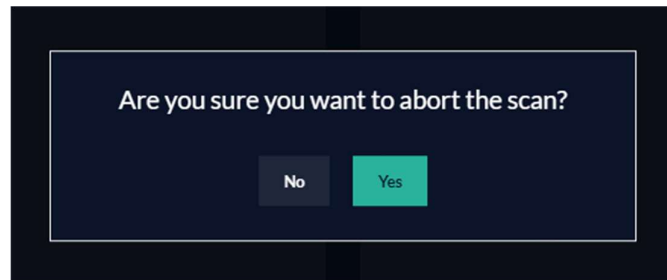

Figure 6-29 Confirmation of aborting scan.
1. During an ongoing scan, click **Cancel Scan(s)** and confirm by clicking **Yes** (Figure 6-29).